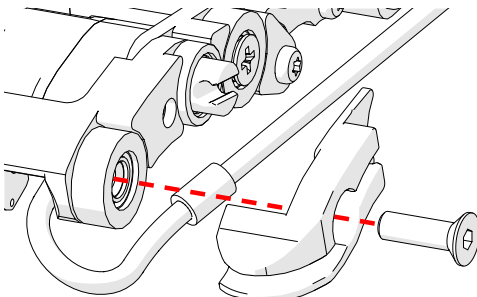

Fig. 46 - Remove encoder cable guard
3. Remove the encoder cable guard (Fig. 46).